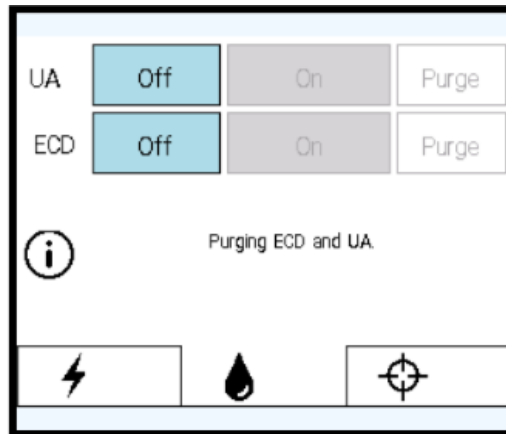
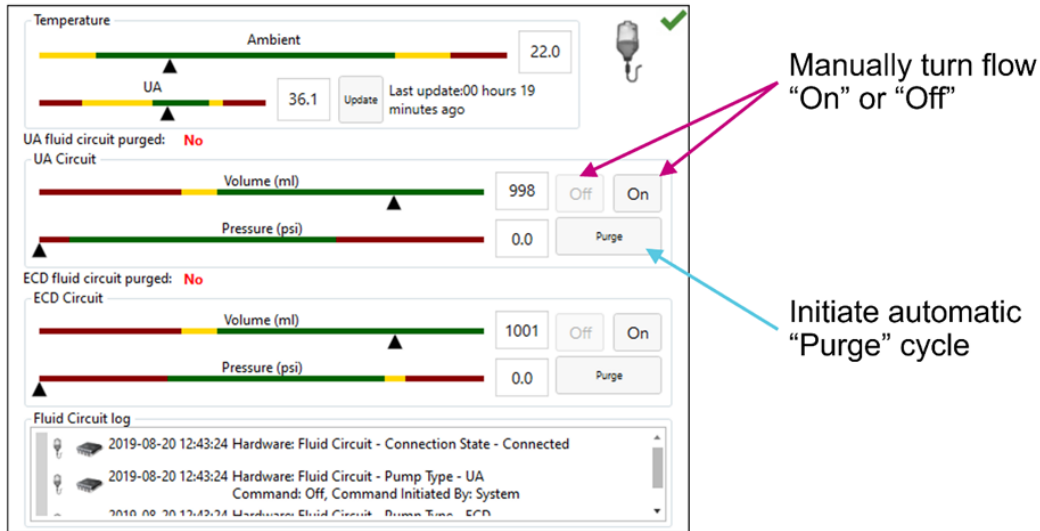

Figure 7: PSIB Display - Fluid Circuit tab
Figure 8: Fluid Circuit information box in TDC Setup workspace.
4. On the PSIB display, choose the **Fluid Circuit** tab (Figure 7) and **Purge** the UA and ECD fluid circuits. You can also do this from the TDC by pressing **PURGE** beside the fluid circuit (FC) quadrant (Figure 8).